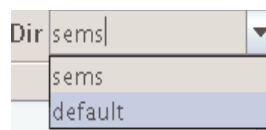

Figure 9. Dir Menu
- Select a choice from the **Dir** menu, Figure 9, for the directory to save the page in.